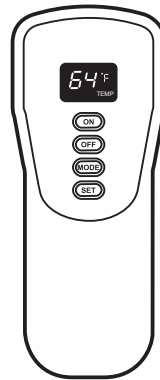

Figure 25 - Remote Control
4. Press the ON button on the remote control to light the burner (see Figure 25). You will hear a series of beeps. This will also "learn", or program, the remote and the receiver.